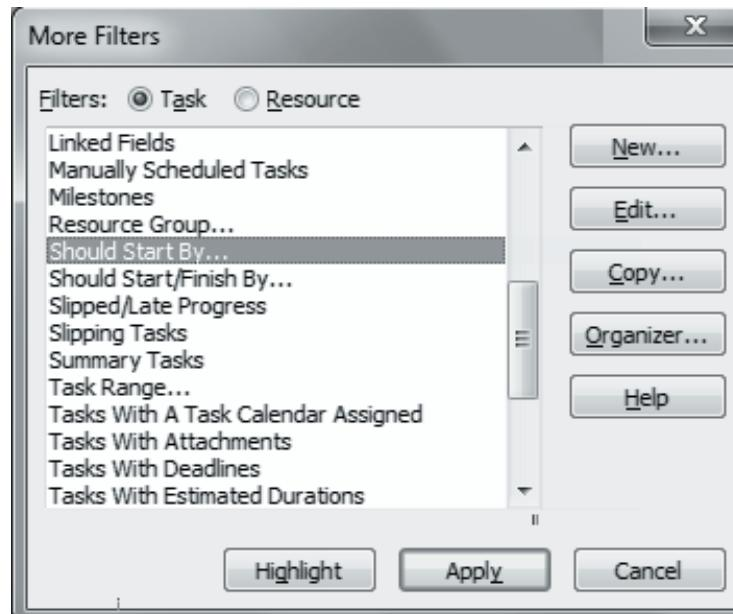

Figure 12.7: More Filters Dialog Box
1. Open the project and on the **View** tab, click **More Filters** under **Filter** drop-down on the **Data** tab of the Ribbon to display **More Filters** dialog box as shown in figure 12.7.